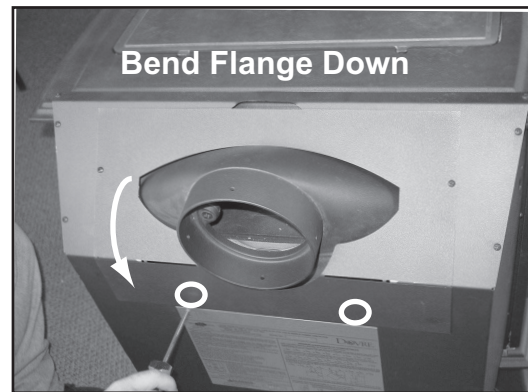

Figure 12.3
2. Bend the cover plate flange down. **Figure 12.3.**